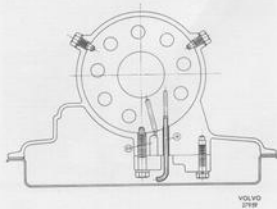
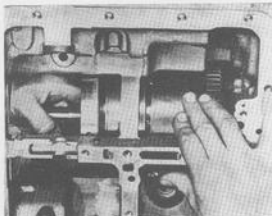

Fig. 4-102. Center support, retention and passages
Fig. 4-103. Withdrawing center support and planet gears
32. From the outside of the transmission case remove the two center support screws, see Fig. 4-102. Withdraw the center support and planet gears, see Fig. 4-103. Take out the rear brake band. Separate the center support, one-way clutch and planet gears. Remove the snap ring and the outer race of the one-way clutch.
8. Turn the fluid passage holes in the center support upwards and fit the assembled unit into the transmission case. (Note that the holes point downwards when the transmission is turned the right way up, see Fig. 4-102).